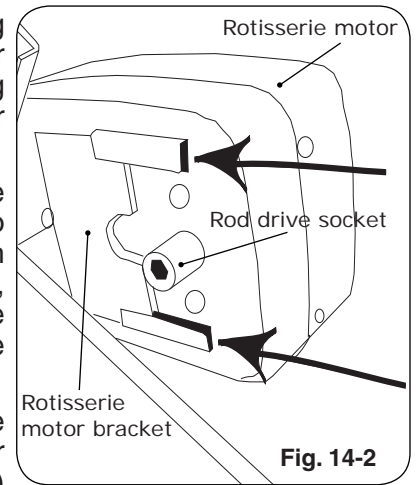

Fig. 14-2
2. Slide rotisserie motor fully onto motor bracket on right (Fig. 14-2, 14-3) until the drive socket rests in the cut-out.